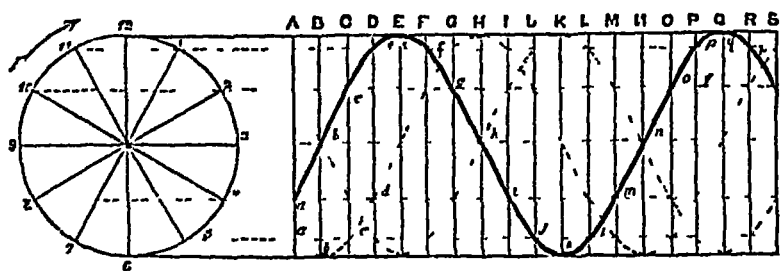
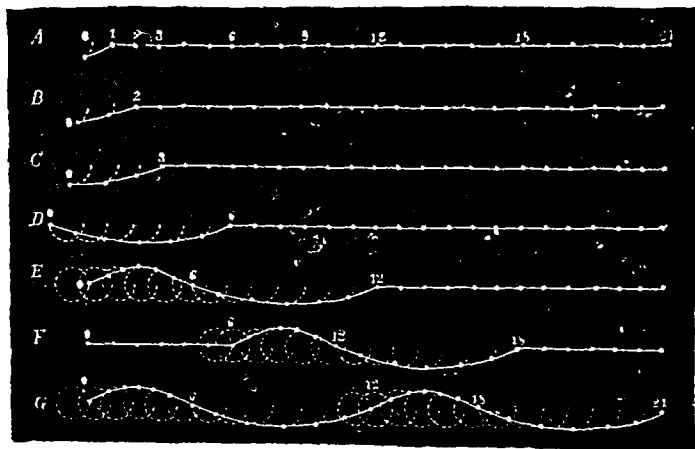

FIG 46
FIG 47
Suppose a number of particles move in parallel straight lines  $APCD$  with harmonic motion, so that each succeeding particle is  $\frac{1}{2}$  of a revolution behind the other, and suppose the time of a revolution (the period) be 1 second. The position of the particles at any time can be determined from the generating circle (fig 46).
For simplicity we have supposed that the particles in fig 46 move in straight lines, they may move with harmonic motion in ellipses or circles. Suppose 0, 1, 2, 3, a number of particles at rest (fig 47), and that 0 begins to move in a circle, the period being one second, and that each particle follows  $\frac{1}{12}$  second later than its predecessor. A B C D E represent the positions at the end of  $\frac{1}{12}$ ,  $\frac{2}{12}$ ,  $\frac{3}{12}$ ,  $\frac{6}{12}$ , and  $\frac{12}{12}$  period. From 0 to 12 (E) is one wave-length, 0 is in its original position. If after one revolution the particles rest, one wave moves along,
If in fig 46 we double the diameter of the circle, that is, double the amplitude of vibration, while the period remains as before, each particle in A B C must move with twice its former speed The waves will be higher and will have a greater effect upon any obstacle, their capacity for doing work will be four times their former capacity In a similar way if the amplitude of the particles in sound-waves be doubled or trebled, the capacity of the waves for doing work will be four times or nine times their former capacity, and will have four times or nine times their former effect upon the ear The amplitude of the vibrations of the air-particles, will be the amplitude of vibration of the sonorous body